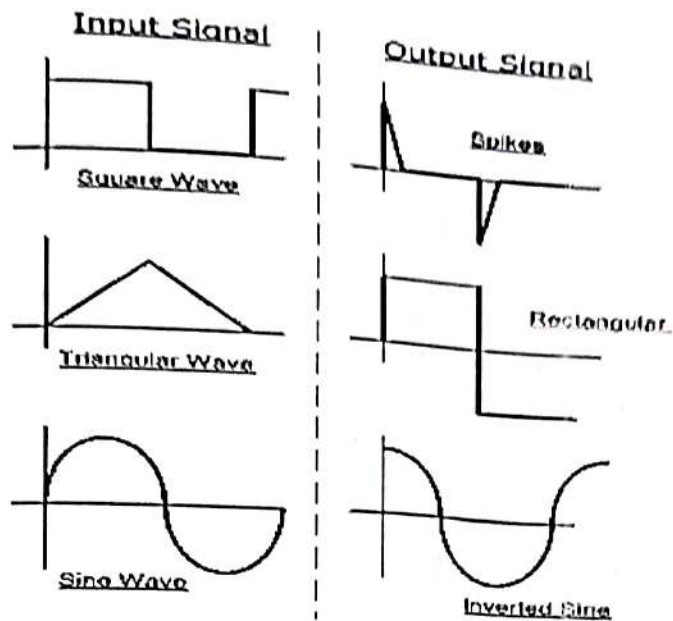

Figure 4. Input and output waveforms of a Differentiator
5. Repeat the above steps with different input waves and observe the output on CRO shown in Figure 4.